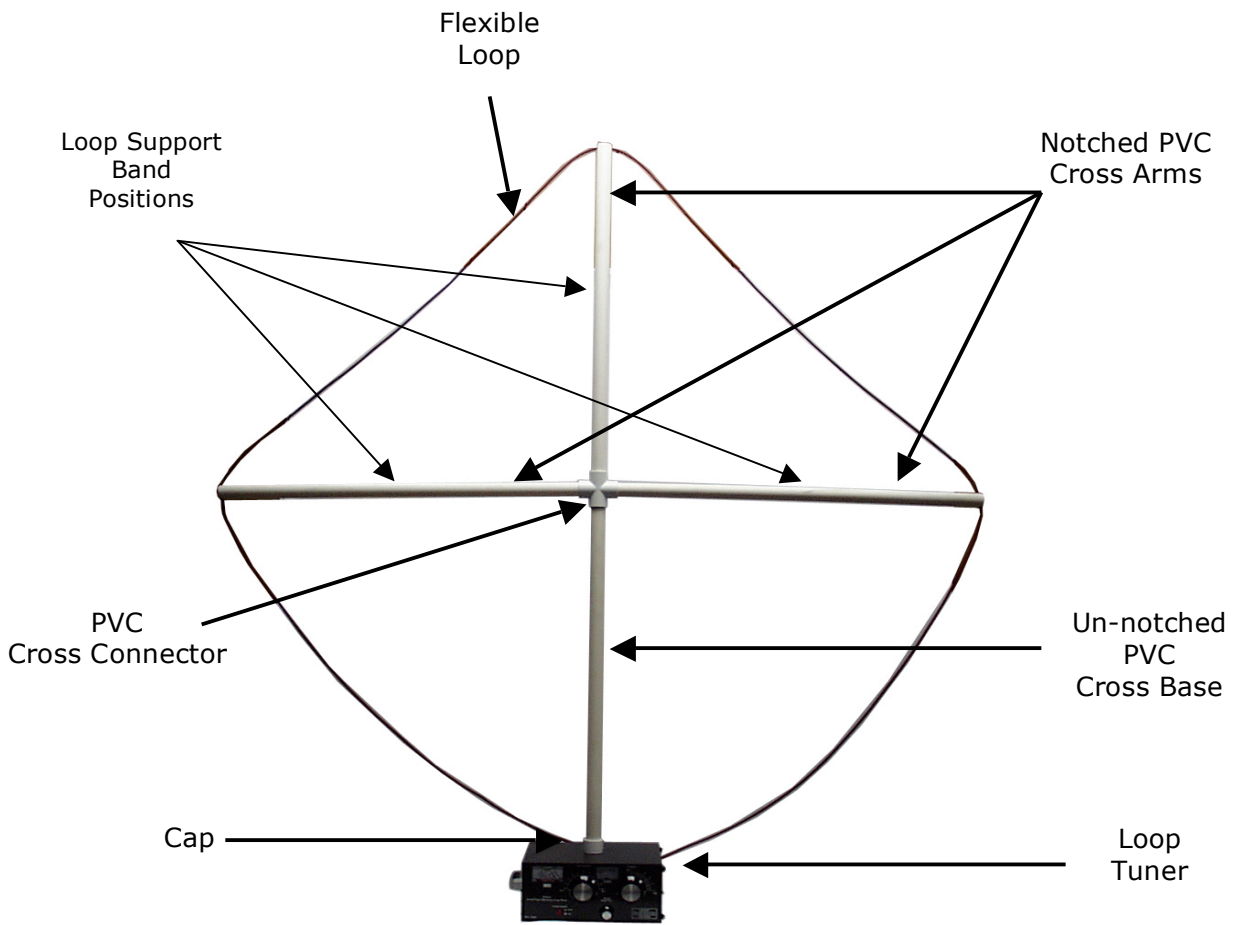

Figure 1: PVC Cross Mount Loop Assembly
1. Assemble the PVC Cross Mount as shown in Figure 1.
- a. Place *Notched PVC Cross Arms (2)* on each side and top of the *PVC Cross Connector (3)*.
- b. Place *Un-notched PVC Cross Base (4)* on the bottom of the *PVC cross Connector (3)* and fit into the *Cap (5)* on the top of the *Loop Tuner (6)* as shown in Figure 1.
2. Place the *Loop Tuner (6)* at the chosen place of operation and attach the *Flexible Loop (1)* as shown in Figure 1.
- a. Place the *Flexible Loop (1)* wire around the PVC cross mount and fit into the notches on the *Notched PVC Cross Arms (2)* forming a loop.
- a. Place *Notched PVC Cross Arms (2)* on each side and top of the *PVC Cross Connector (3)*. Make sure the Loop support bands are on the cross arms. Position them in the center of the cross arms as shown in figure 1.
- b. Place *Un-notched short PVC Cross Base (not shown)* on the bottom of the *PVC cross Connector (3)* and fit into the *Cap (5)* on the top of the *Loop Tuner (6)*.
2. Place the *Loop Tuner (6)* at the chosen place of operation and attach the *Flexible Loop (1)*.
- a. Place *Notched PVC Cross Arms (2)* on each side and top of the *PVC Cross Connector (3)*. Make sure the Loop support bands are on the cross arms. Position them in the center of the cross arms as shown in Figure 1.